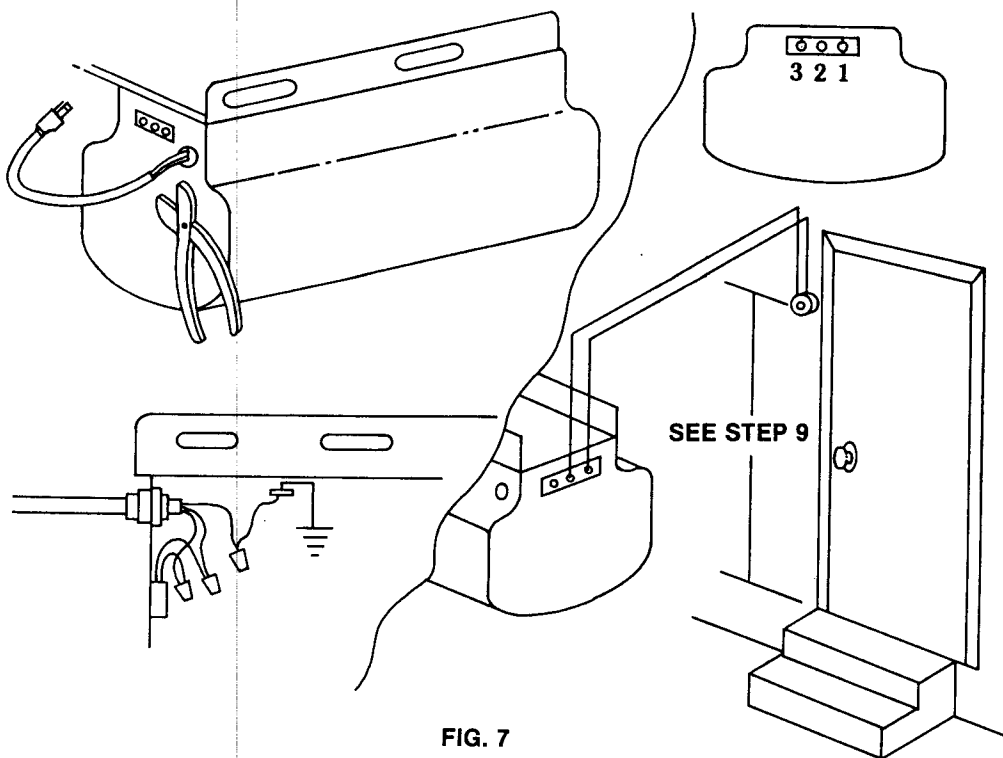

FIG. 7
**STEP 9.** Three terminal screws are provided at the back of the operator. They are numbered from right to left as 1, 2, 3. Terminals 1 and 3 provide 24 VAC to power a radio receiver. Terminals 1 and 2 are for the wall button connection. Connect the radio receiver according to the instructions provided with the radio. Connect the wall button wires according to Fig. 7. Avoid using solid wire and be certain that the placement of the wall button is **OUT OF THE REACH OF CHILDREN**. Attach the pull cord securely to the release lever at this time but do not cut the cord. It is to be adjusted later.